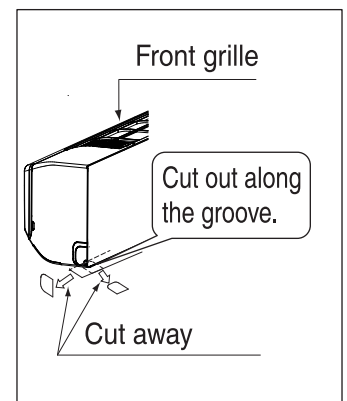

Fig. 4
- Check the location for the hole using the included paper pattern for installation (3).
- Temporarily attach the installation panel (1) at the temporary-securing position on the paper pattern for installation (3) and use a level to make sure the drain hose is either level or tilted slightly downward.
- Secure the installation panel (1) to the wall using either screws or bolts.
- If using the attachment screws for the installation panel (2), attach using at least 4 screws on either side of the recommended installation cleat position on the included paper pattern for installation (3).
(3) If using the left, bottom-left, right, or bottom-right positions for the piping, cut out the through-hole for the piping in the front grille. (Refer to Fig. 4)